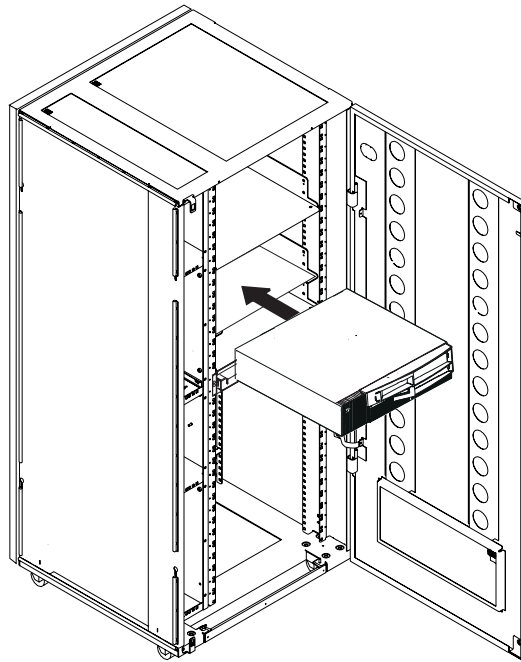

Figure 6. Installing the Service Processor Unit in the Controller Expansion (Front Side)
- \_\_\_ 9. Slide the Service Processor Unit on the plate as shown in Figure 6.